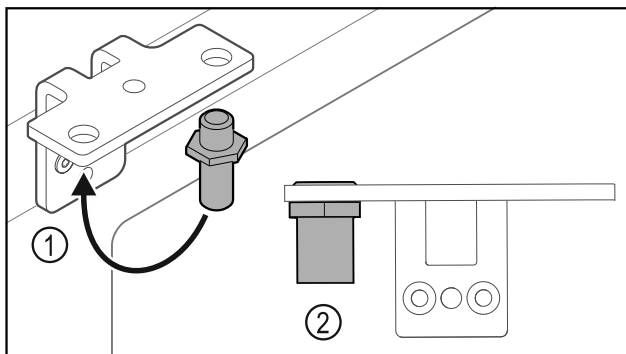

Fig. 30
- ▶ Put the pin back into the hinge Fig. 30 (1).
- ▶ Tighten the pin Fig. 30 (2) to a **torque of 12 Nm**.